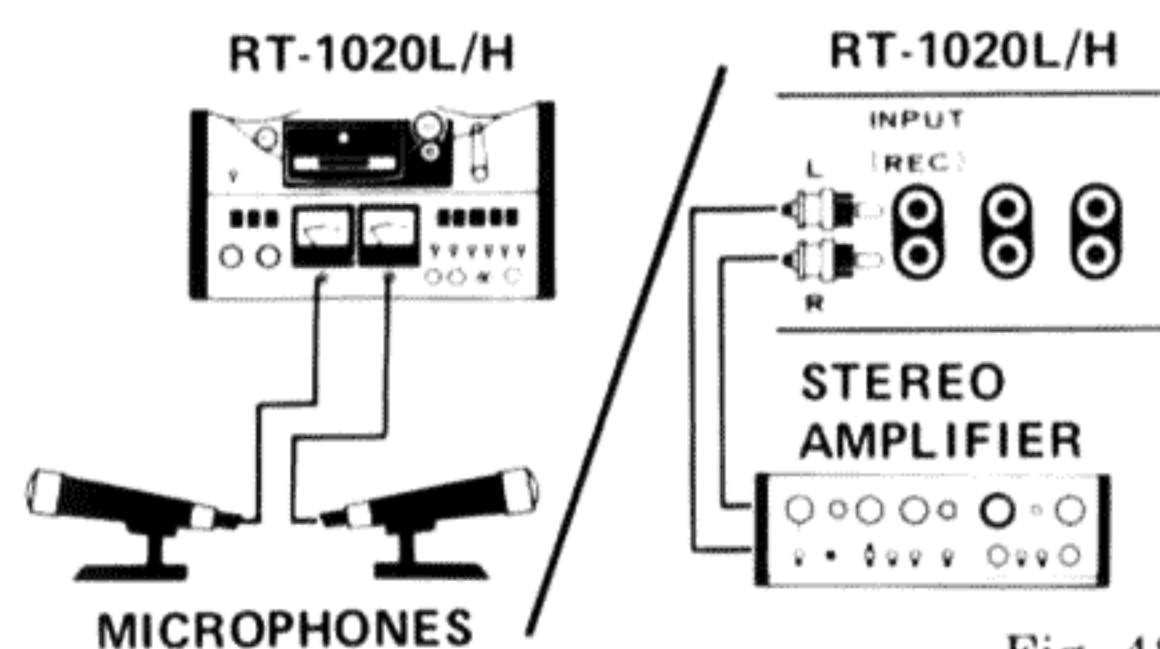

Fig. 48
1. Connect microphones to MIC jacks, supply signal from stereo amplifier to INPUT (REC) terminals (Fig. 48).